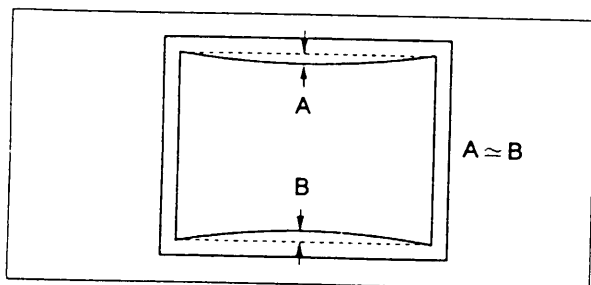

Fig. 6-3-9
- 7) Tighten the setscrew of deflection yoke, input a white cross-hatch signal, swing the deflection yoke up and down, then fasten the deflection yoke with the deflection yoke spacers at a position where the top and bottom pin cushion distortions are about the same (as shown in Fig. 6-3-9).